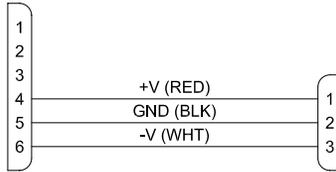

Figure 20. 3500-D Power Cable with 3-Contact Plug
- The 3500-D may obtain power from PESA system components having 3-contact power connectors by using a power cable assembly (Part No. 81-9065-1653-0) constructed as shown in Figure 20. If this cable must be constructed in the field, consult Drawing No. WI50-0238 for assembly details. This cable may be used with the following equipment: